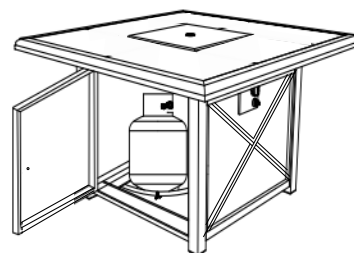

Figure 6
9. Open the door, place the 20-pound cylinder into the main body and tighten it as shown on the right, so the gas cylinder cannot move and fall down, and close the door, (see figure 6).